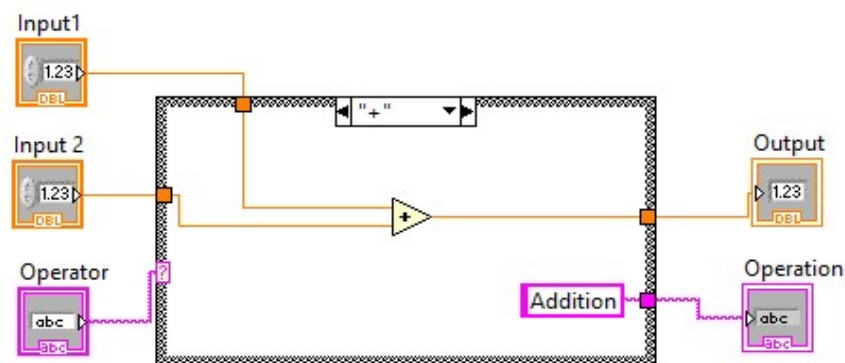

Figure 4: Sample case-structure
5. In the "+" case, place "add" block. Connect both numeric controls to its input, and its output to numeric indicator, as shown in figure 4 below.